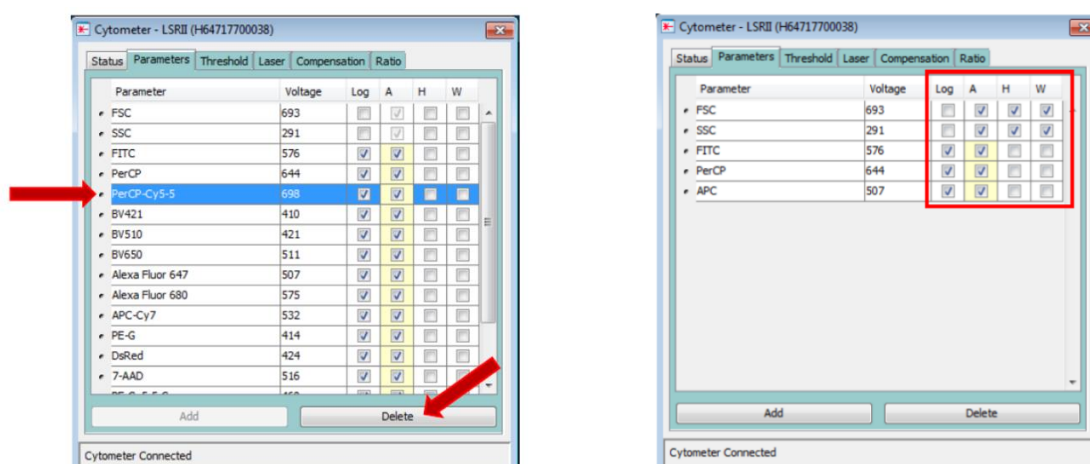

Figure 3 - Cytometer Window in FACSDiva
4. In the **Cytometer Window**, in the Parameters Tab, select all the fluorescence detectors and click **Delete**. Add back only the detectors you will use in your experiment (see Figure 3).